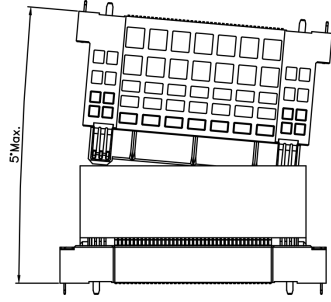
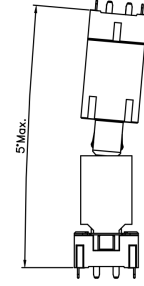

图 3/Fig3
图 4/Fig4
g.图 3 及图 4 所示指导角度，插入前不可大于此角度（未锁定）；
Guide Angle as shown in figure 3 and figure 4 ,not greater than this Angle before insertion (not locked)